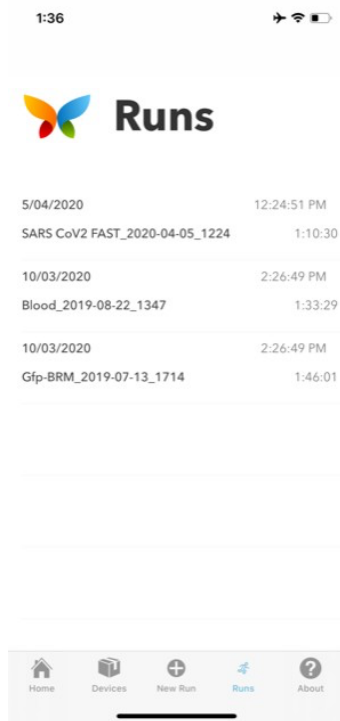

Figure 17: Runs screen lists results reports.
1.4.2. Select the **Runs** tab from the menu at the bottom of the screen (**Figure 17**). The latest run will appear at the top of the screen. The filename will include the Protocol name, date and time of run completion.